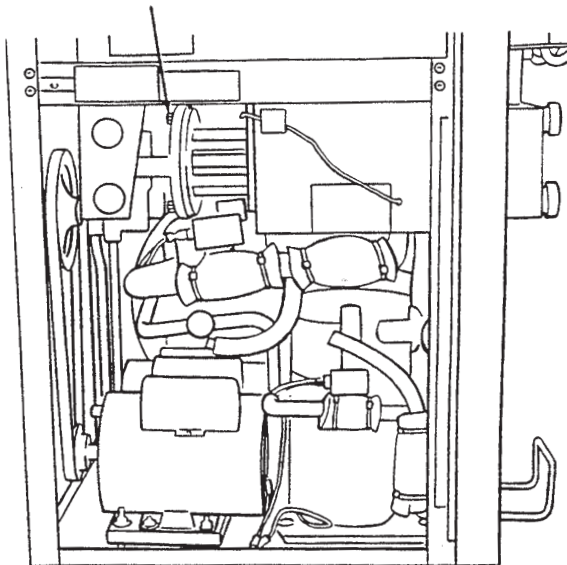

Figure 69. Speed Reducer Removal
3. Use a 9/16" box end wrench to remove the three bolts holding the speed reducer to the spacer (Figure 69).